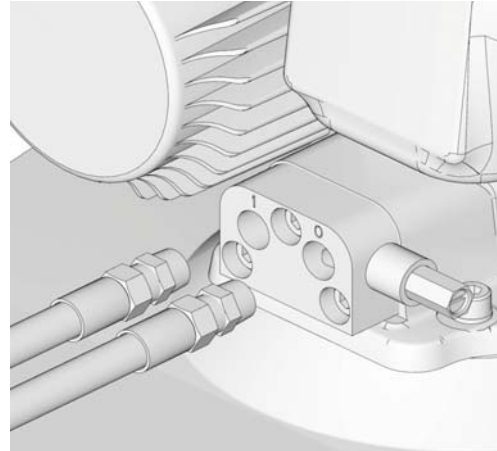

**FIG. 6**
3. Install outlet adapter block (1) to pump surface using the 3 cap screws (3) included in the kit (FIG. 6). Hold the outlet adapter tight to the surface of the